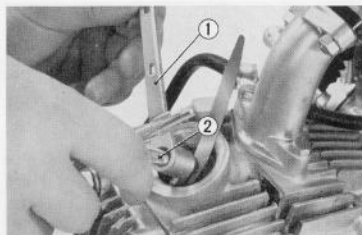

Fig. 5.4 Locking the adjusting nut
2. When locking the adjusting screw, hold the screw while locking the nut to prevent its turning. (Fig. 5.4)